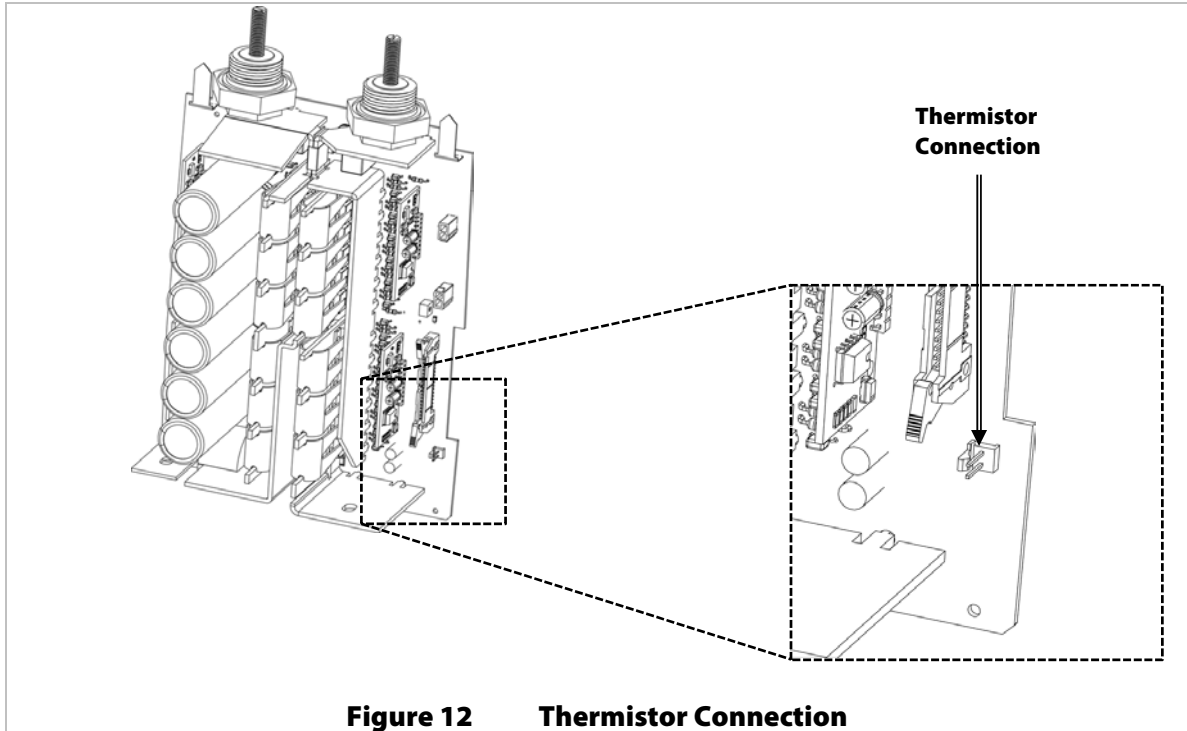

Figure 12 Thermistor Connection
16. Remove the thermistor wire from the FET PCBA. Figure 12 shows the location of the connector.
1. Check the replacement FET PCBA to see if a thermistor clip was installed. (See Figure 12.) If one is present, remove it and discard.
2. Guide the FET PCBA into the proper slot of the chassis; lower it only halfway down. Plug the green thermistor wire from the transformer into the FET PCBA. (See Figure 12 for the location of this connector.) Push the FET PCBA all the way down into the chassis.